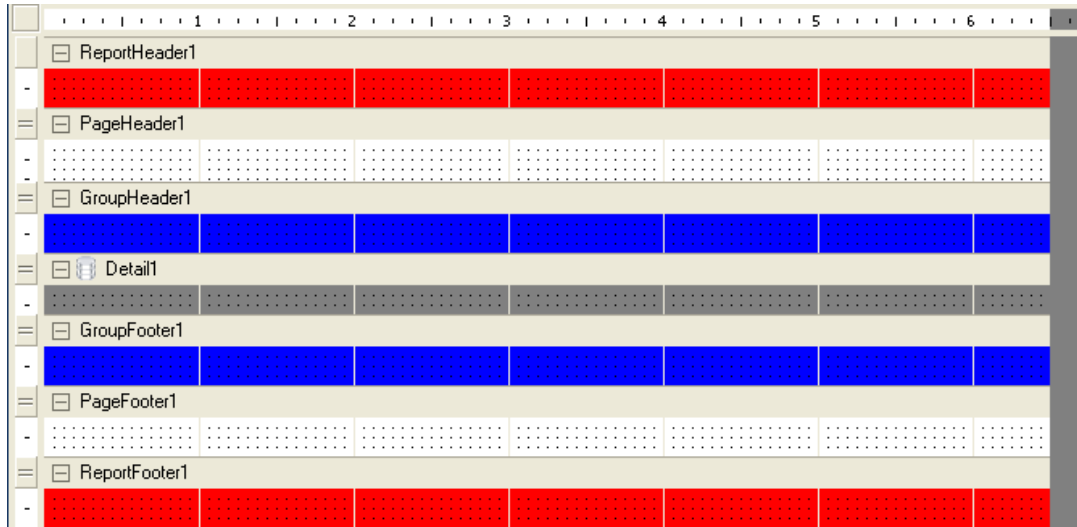

Figure 30
- **Sections** – The key section of any report built using the Active Reports engine is the “Detail” section. This section represents a single record in the data the report is iterating over. This section should be considered the middle of the report. It is the only section that does not have a sibling section. This means that the detail section of a report stands alone. All other sections (Group, Page, or report sections) have both a header and a matching footer section (Figure 30)